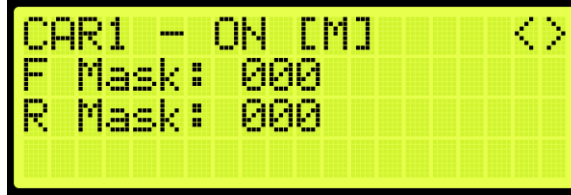

Figure 275: VIP Mask Status
14. View the VIP (Front and Rear) Mask Status (See Figure 275), press the right button.